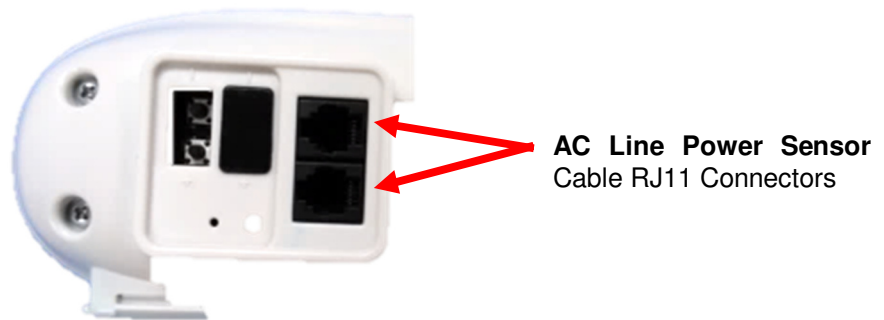

Figure 4. Connecting the AC Line Power Sensor to the Bed Beacon via the RJ11 connector
1. Connect the AC Line Power Sensor to the Bed Beacon via any RJ11 jacks as shown in *Figure 4*.